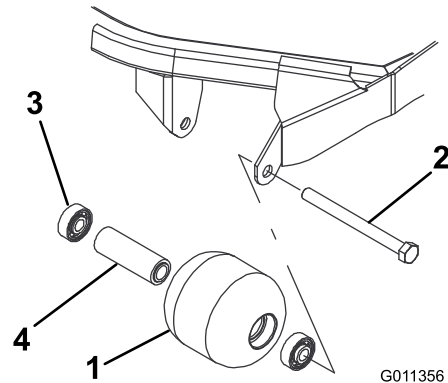

Figure 81
1. Remove the roller-mounting bolt (Figure 81).
4. Inspect the roller housing, bearings, and bearing spacer for damage (Figure 81). Replace any damaged components and assemble them.
1. Press the first bearing into the roller housing (Figure 81). Press on the outer race only or equally on the inner and outer race.
2. Insert the spacer (Figure 81).
3. Press the second bearing into the roller housing (Figure 81). Pressing equally on the inner and outer race until the inner race comes in contact with the spacer.